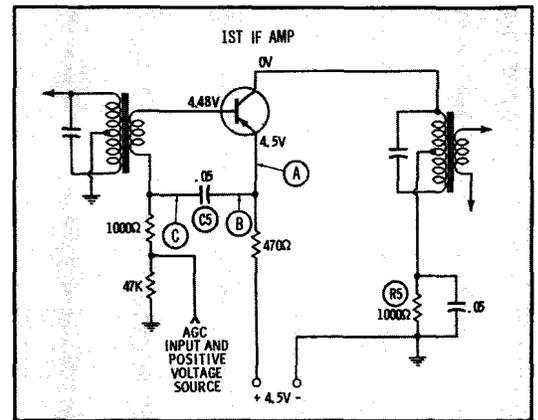

Fig. 2. Improper bias can cause weak sound.
*Result:* All bias voltages seem about right except on first IF amplifier (Fig. 2). Here it is .02 volt instead of normal .1 volt. Collector voltage is zero, while it should be about .1 volt.